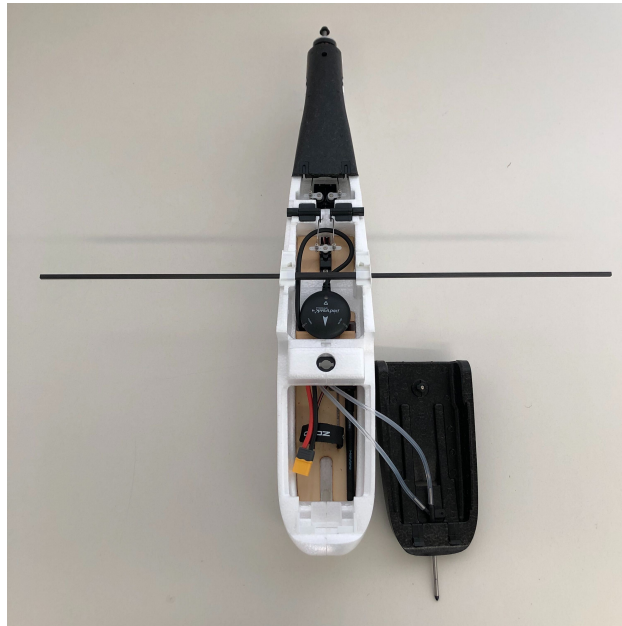

Figure 1: Installed Wing Spar.
1. To install the wing, take off the upper caps of the plane. Then, stick the wing spar through its mount in the fuselage (Fig. 1).